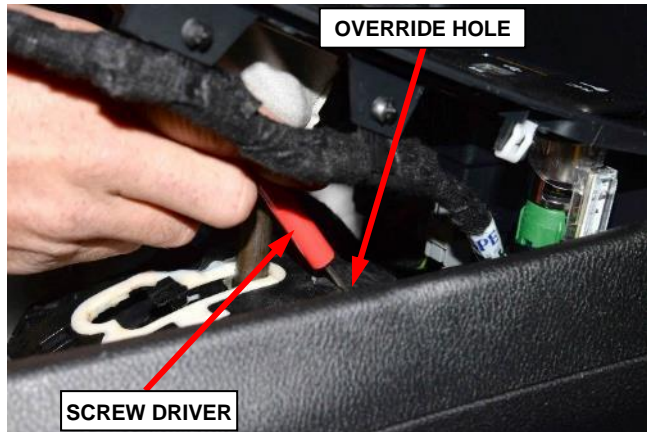

Figure 5 – Shift Lever Override
- b. Insert a small screwdriver or similar tool down into the shift lever override access hole (at the right front corner of the shift lever assembly), and push and hold the override release lever down (Figure 5).